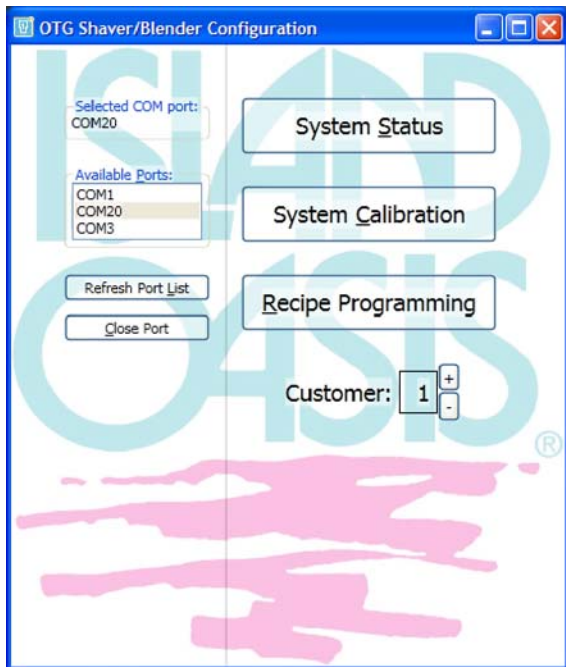

Figure 3
6. Refresh the Port List and select the proper COM Port from the list of Available Ports. This is usually the highest numbered port in the list. (See Figure 3.)